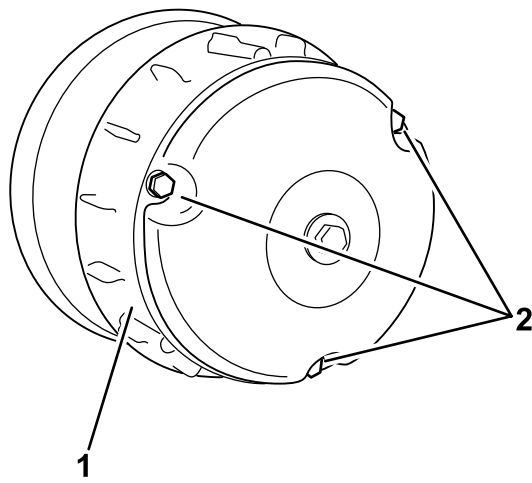

Figure 63
2. Remove the 3 bolts securing the cover to the clutch, and remove the cover (Figure 63).
4. Install the clutch cover and secure it with the 3 bolts (Figure 63) that you removed in 2.